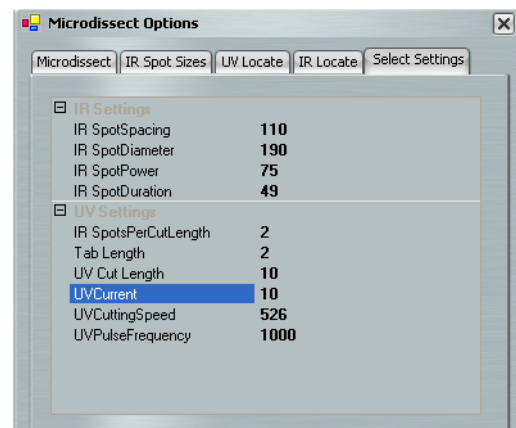

Figure 55 Select Settings tab.
2. Click the **Select Settings** tab (see Figure 55).